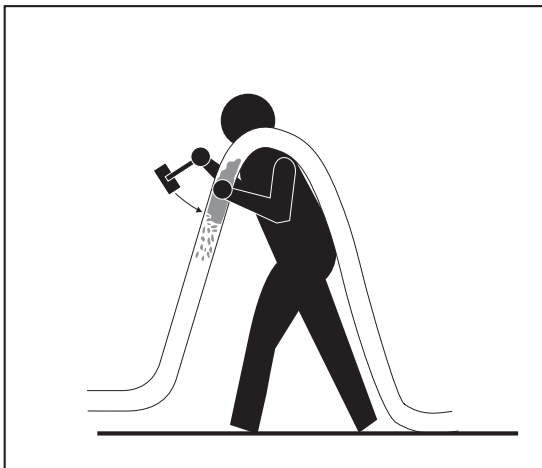

FIG.41
- Disconnect the mortar pipe, strike it with a mallet in correspondence with the blocked zone and eliminate the hardened material (FIG.41).